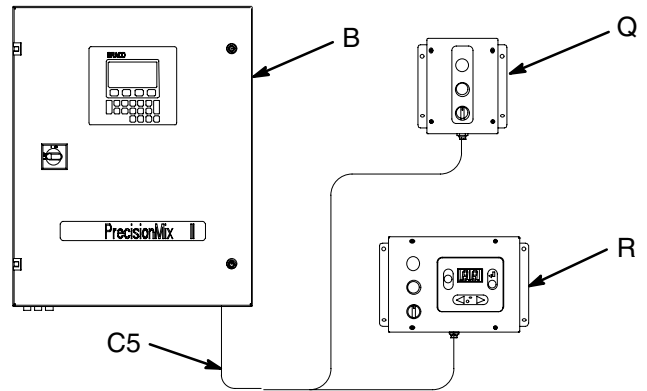

Fig. 3.12
Be sure the supplied cable (C5) can reach the PrecisionMix II controller (B). 100 ft. (30.5 m) of cable is supplied, pre-connected to the operator station. The cable is pre-stripped and has ferrules assembled. See Fig. 3.12.